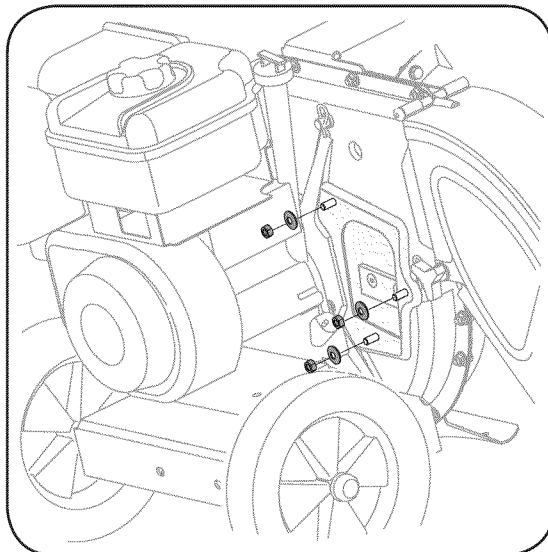

Figure 3-8
8. a. Remove the three cupped washers and hex nuts from weld studs around the opening on the side of the impeller housing. See Figure 3-8.